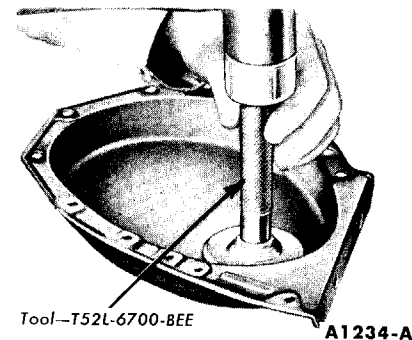

FIG. 21—Front Oil Seal Installation
2. Coat a new seal with grease, then install the seal (Fig. 21). Drive the seal in until it is fully seated in the recess. After installation, check